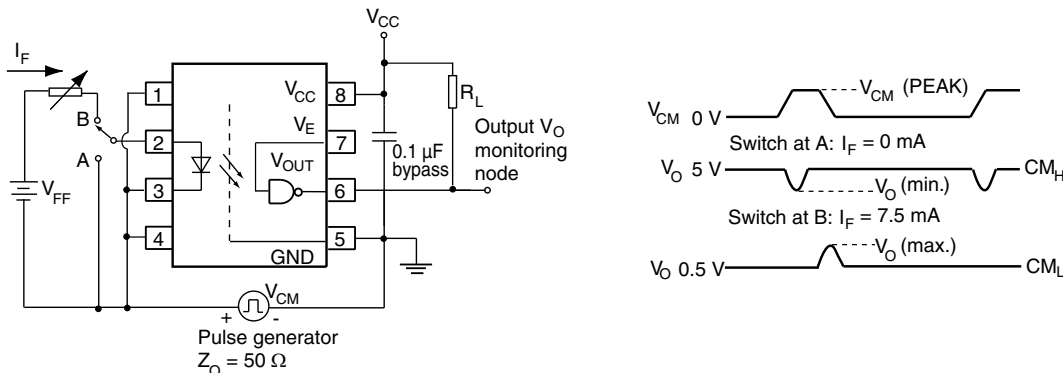

Fig. 4 - VOW137 Test Circuit for Common Mode Transient Immunity
- (2) Over recommended temperature ( $T_{amb} = -40 \text{ }^\circ\text{C}$  to  $+100 \text{ }^\circ\text{C}$ ),  $V_{CC} = 5 \text{ V}$ ,  $I_F = 7.5 \text{ mA}$  unless otherwise specified. All typicals at  $T_{amb} = 25 \text{ }^\circ\text{C}$ ,  $V_{CC} = 5 \text{ V}$ .
- (3) Minimum and maximum values are testing requirements. Typical values are characteristics of the device and are the result of engineering evaluation. Typical values are for information only and are not part of the testing requirements.
- (4) With pulling  $V_E$  to logic high state will improve the CMR performance.
- (5) VOW137 CMTI test circuit refer to Fig. 4